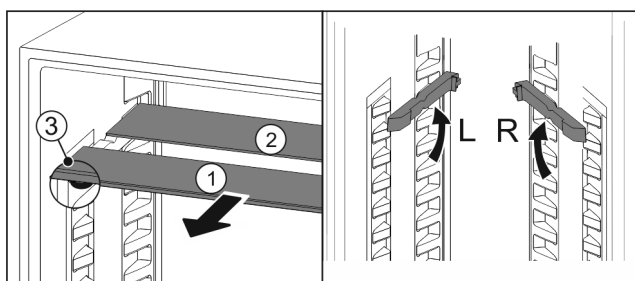

Fig. 124
- Pull the glass panels out Fig. 124 (1) from the front, one at a time.
- The glass panel Fig. 124 (1) and trim strip are at the front.
- The stops Fig. 124 (3) point down.